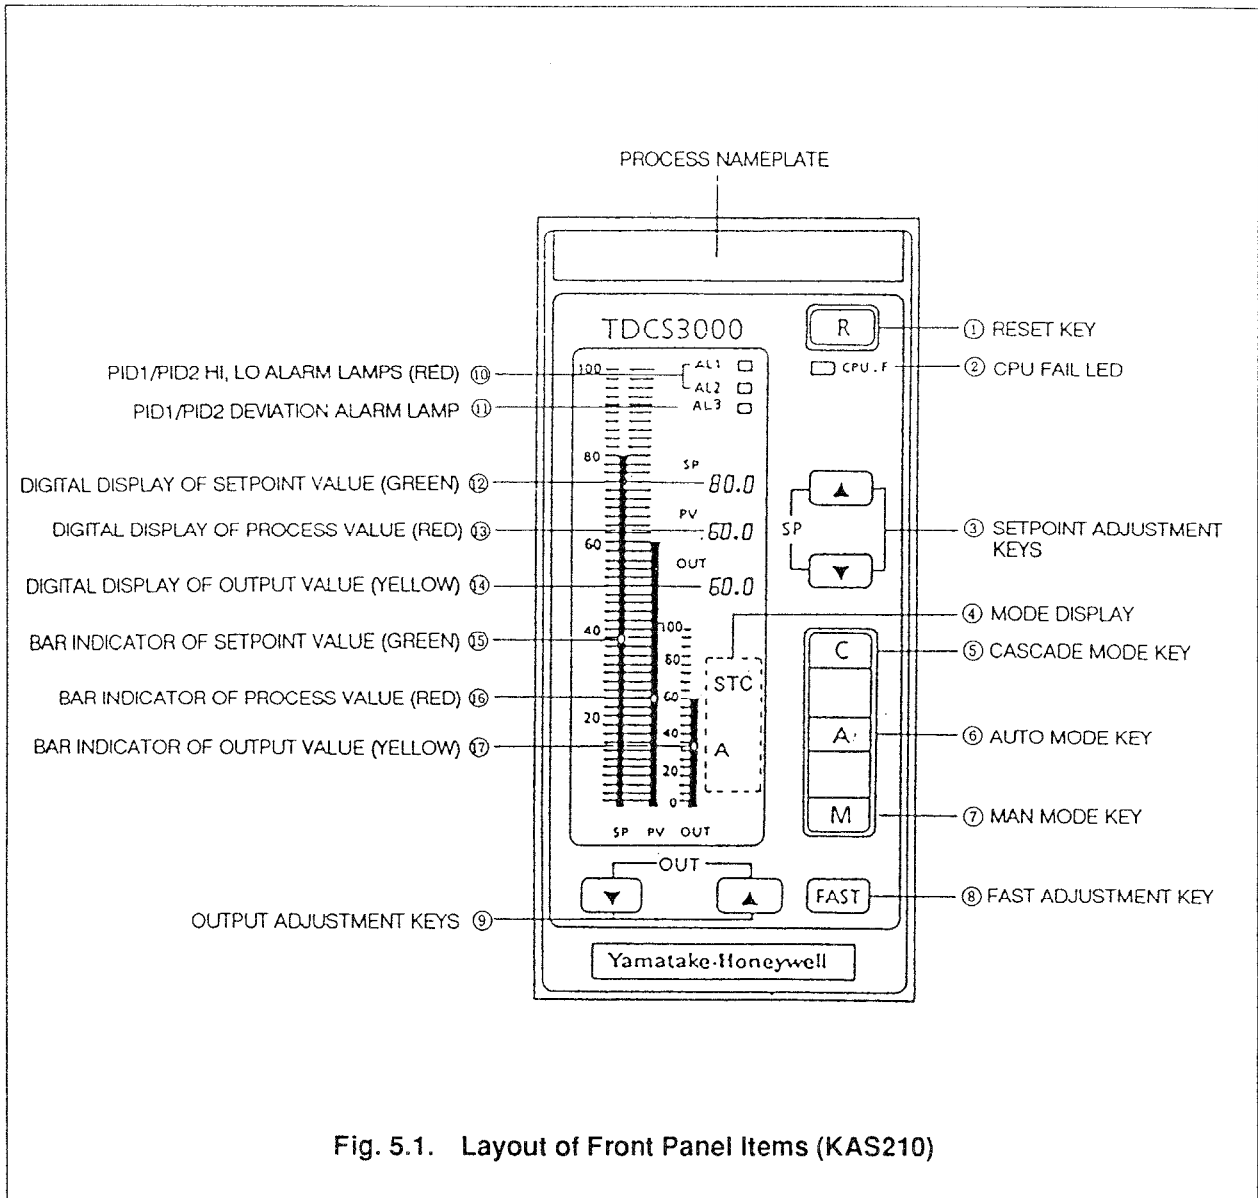

Fig. 5.1. Layout of Front Panel Items (KAS210)
The items installed on the front panel are a color LCD (liquid crystal display), a reset key (R), control mode selector keys (M, A, C), output adjustment keys (▲, ▼), setpoint adjustment keys (▲, ▼) and a fast setting key (FAST). The locations of the front panel items are shown in Fig. 5.1 and their functions are described in Table 5.1.